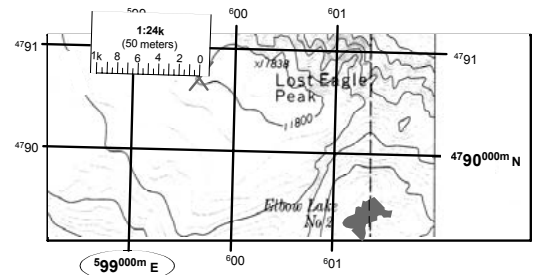

Figure 28
5. Place "0" of 1:24,000 UTM scale at the 'X', with scale increasing left. (Fig 28)
The 1:24,000 UTM scale, in Figures 28 & 29, have 50 meter resolution (50 meters between marks), where the 1:24,000 UTM scale on the 8097 base provides 20 meter resolution. Also, the grids change with respect to the scales. So, identify the grid values and grid resolution when using a UTM grid scale other than 1:24,000.